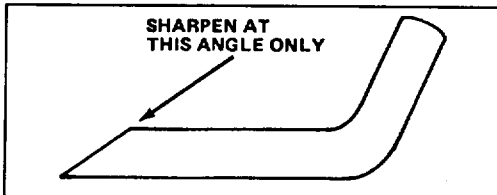

Figure 19
6. SHARPENING BLADE—Using a file, sharpen top side of blade (side facing mower housing) and maintain original cutting angle (Fig. 19). The blade will remain balanced if the same amount of material is removed from both cutting edges.